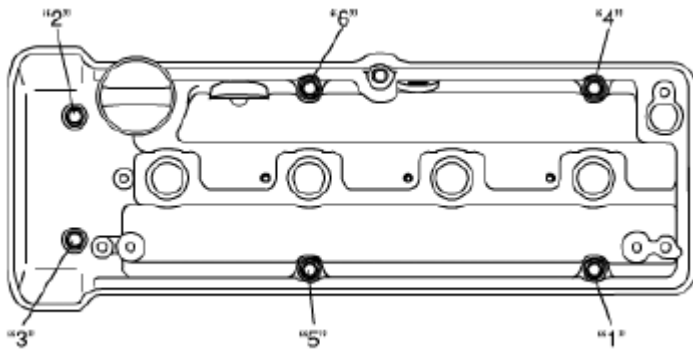

Fig. 32: Identifying Sequence Of Cylinder Head Cover Nuts
8. Remove cylinder head cover nuts in such order as indicated in **Fig. 32**.